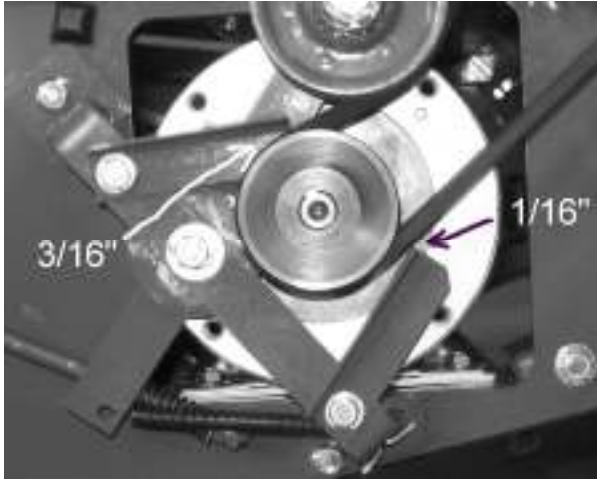

Figure 6 Belt Guide Adjustment
1. Adjust belt guides. With key switch turned off and feeder clutch engaged, clearance at motor pulley should be 1/16" on straight side of belt and 3/16" on idler side. (See figure 6.)